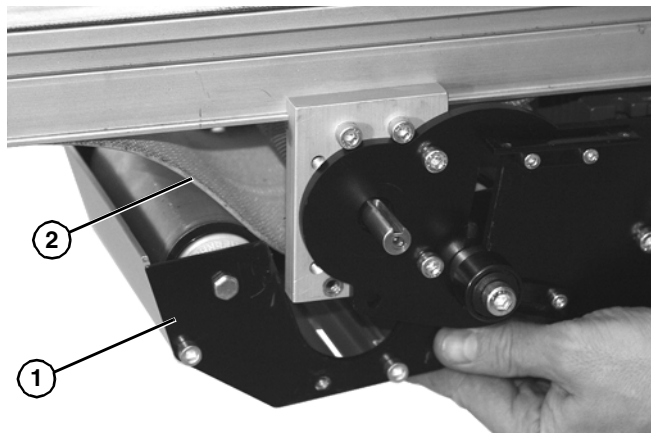

Figure 52
3. Lower and remove mid drive module (Figure 52, item 1) from belt (Figure 52, item 2).